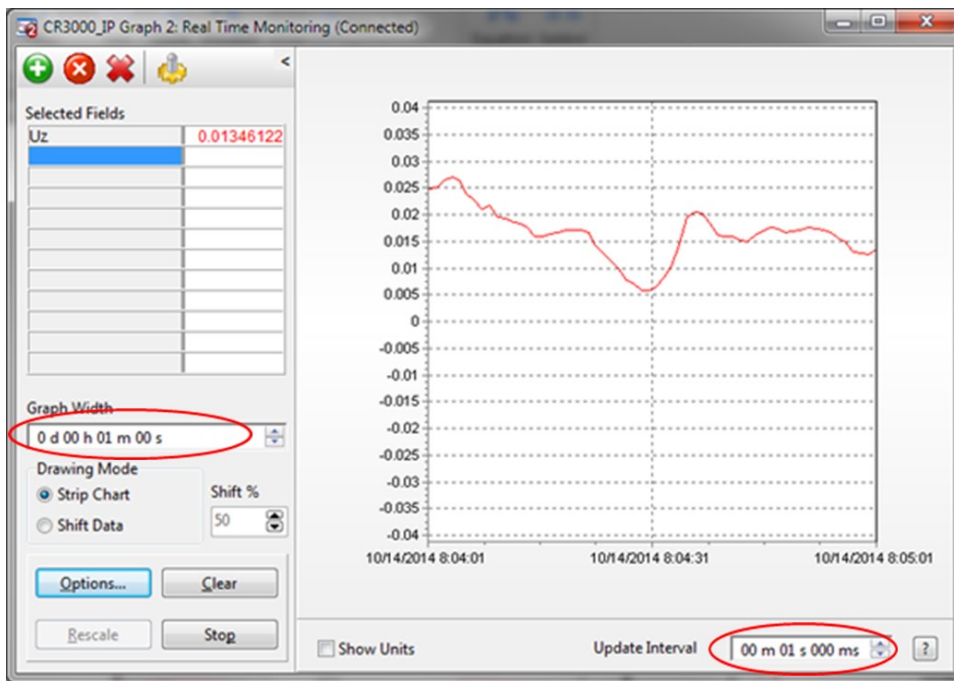

Figure 8-5. CSAT3B real-time data with 1 sec update and  $u_z$  wind component graphed
- b. On the second graph, add the  $u_z$  wind component and set the y limits from  $-0.04$  to  $0.04$  as shown in Figure 8-5 (p. 70).